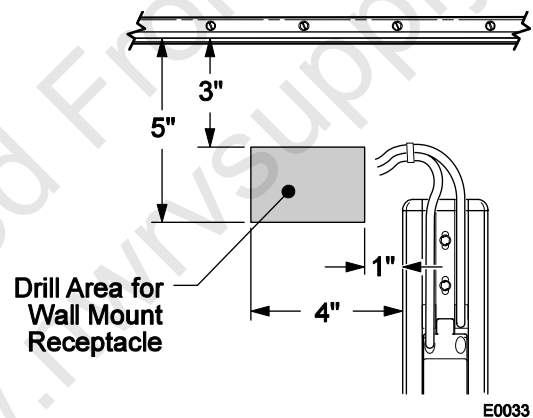

Figure 11. Drill Location for Receptacle.
3.1 Drill a 7/8" hole through the exterior wall in the location shown in Figure 11. Adjust the location within the area to avoid structure, cabinetry etc.